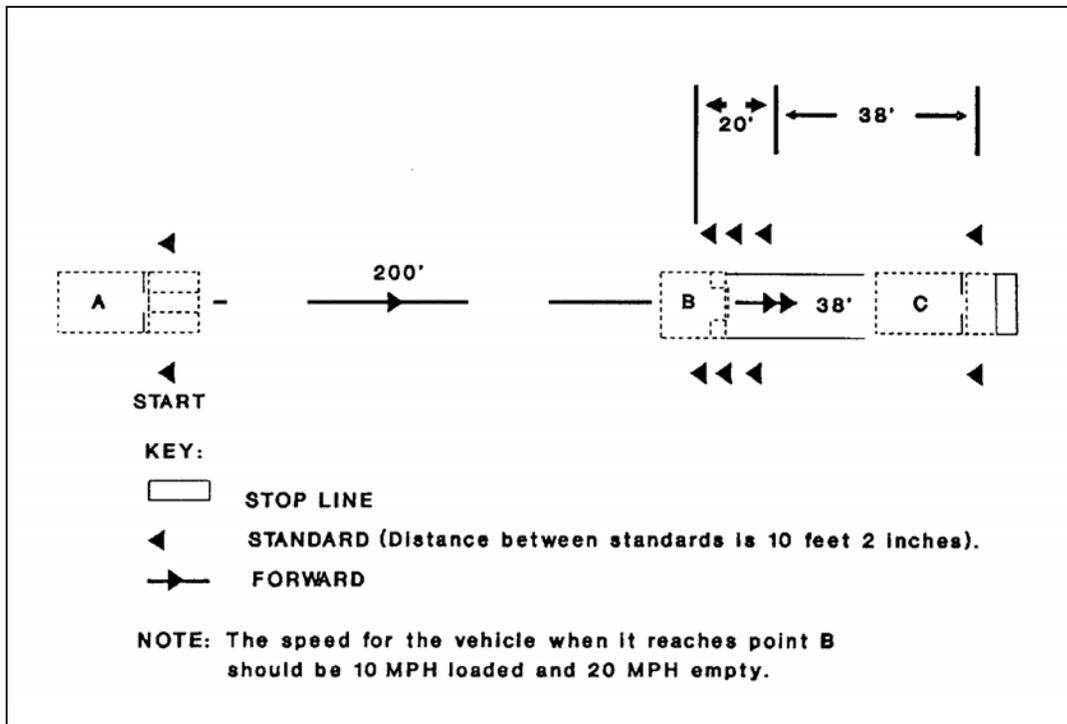

Figure 6-2. Light Vehicle Stopping Within Prescribed Limit.
- Figure 6-2, light vehicle stopping within prescribed limit.